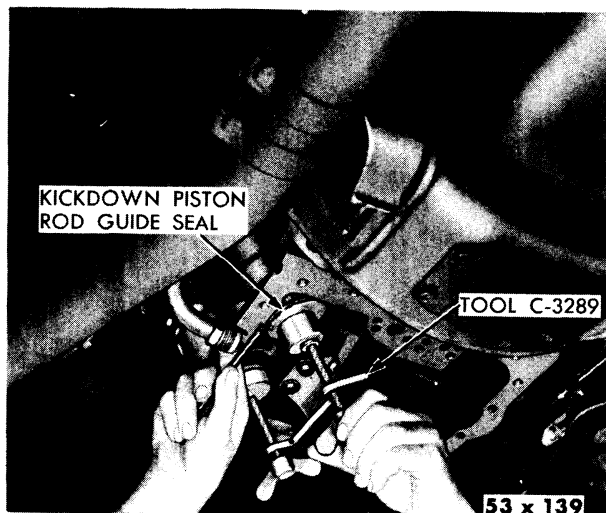

Fig. 44—Positioning Kickdown Piston Rod Guide Seal
- (4) Using Tool C-3289, compress the kickdown piston spring to the point that piston seal slightly binds on transmission case. Work seal into position and gradually compress spring until seal enters case and snap ring can be installed. (Fig. 44.)
- (5) Install kickdown piston rod guide snap ring, making sure it is properly seated.
- (6) Loosen compressing portion of tool and remove tool from transmission case.
- (7) With one end of kickdown band fitted over adjusting screw, compress the other end sufficiently to install the kickdown band strut between kickdown band and kickdown band lever.